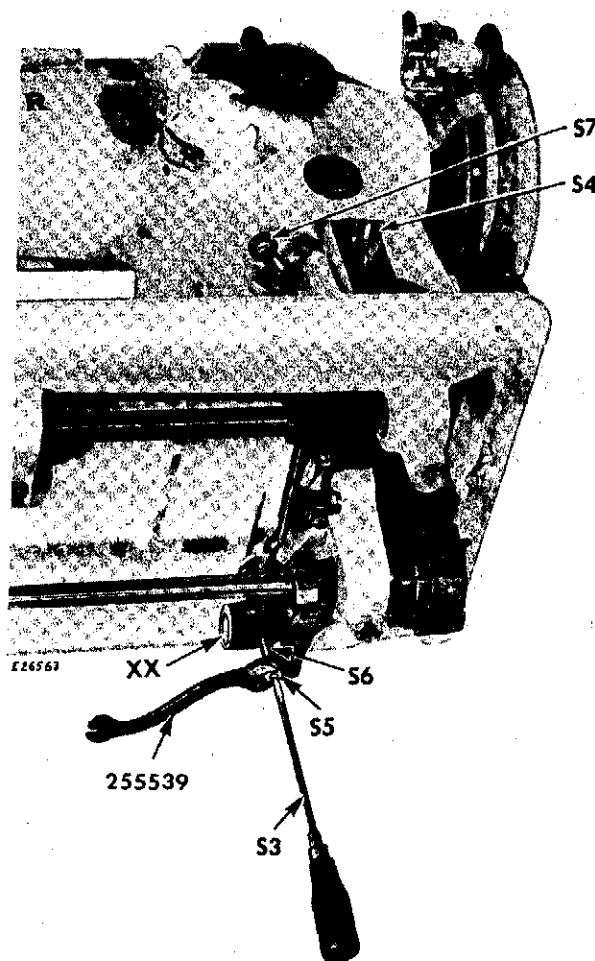

Fig. 241
1. Turn out feed regulator stop screw **S7**, **Fig. 241** to permit maximum up and down movement of stitch regulator.